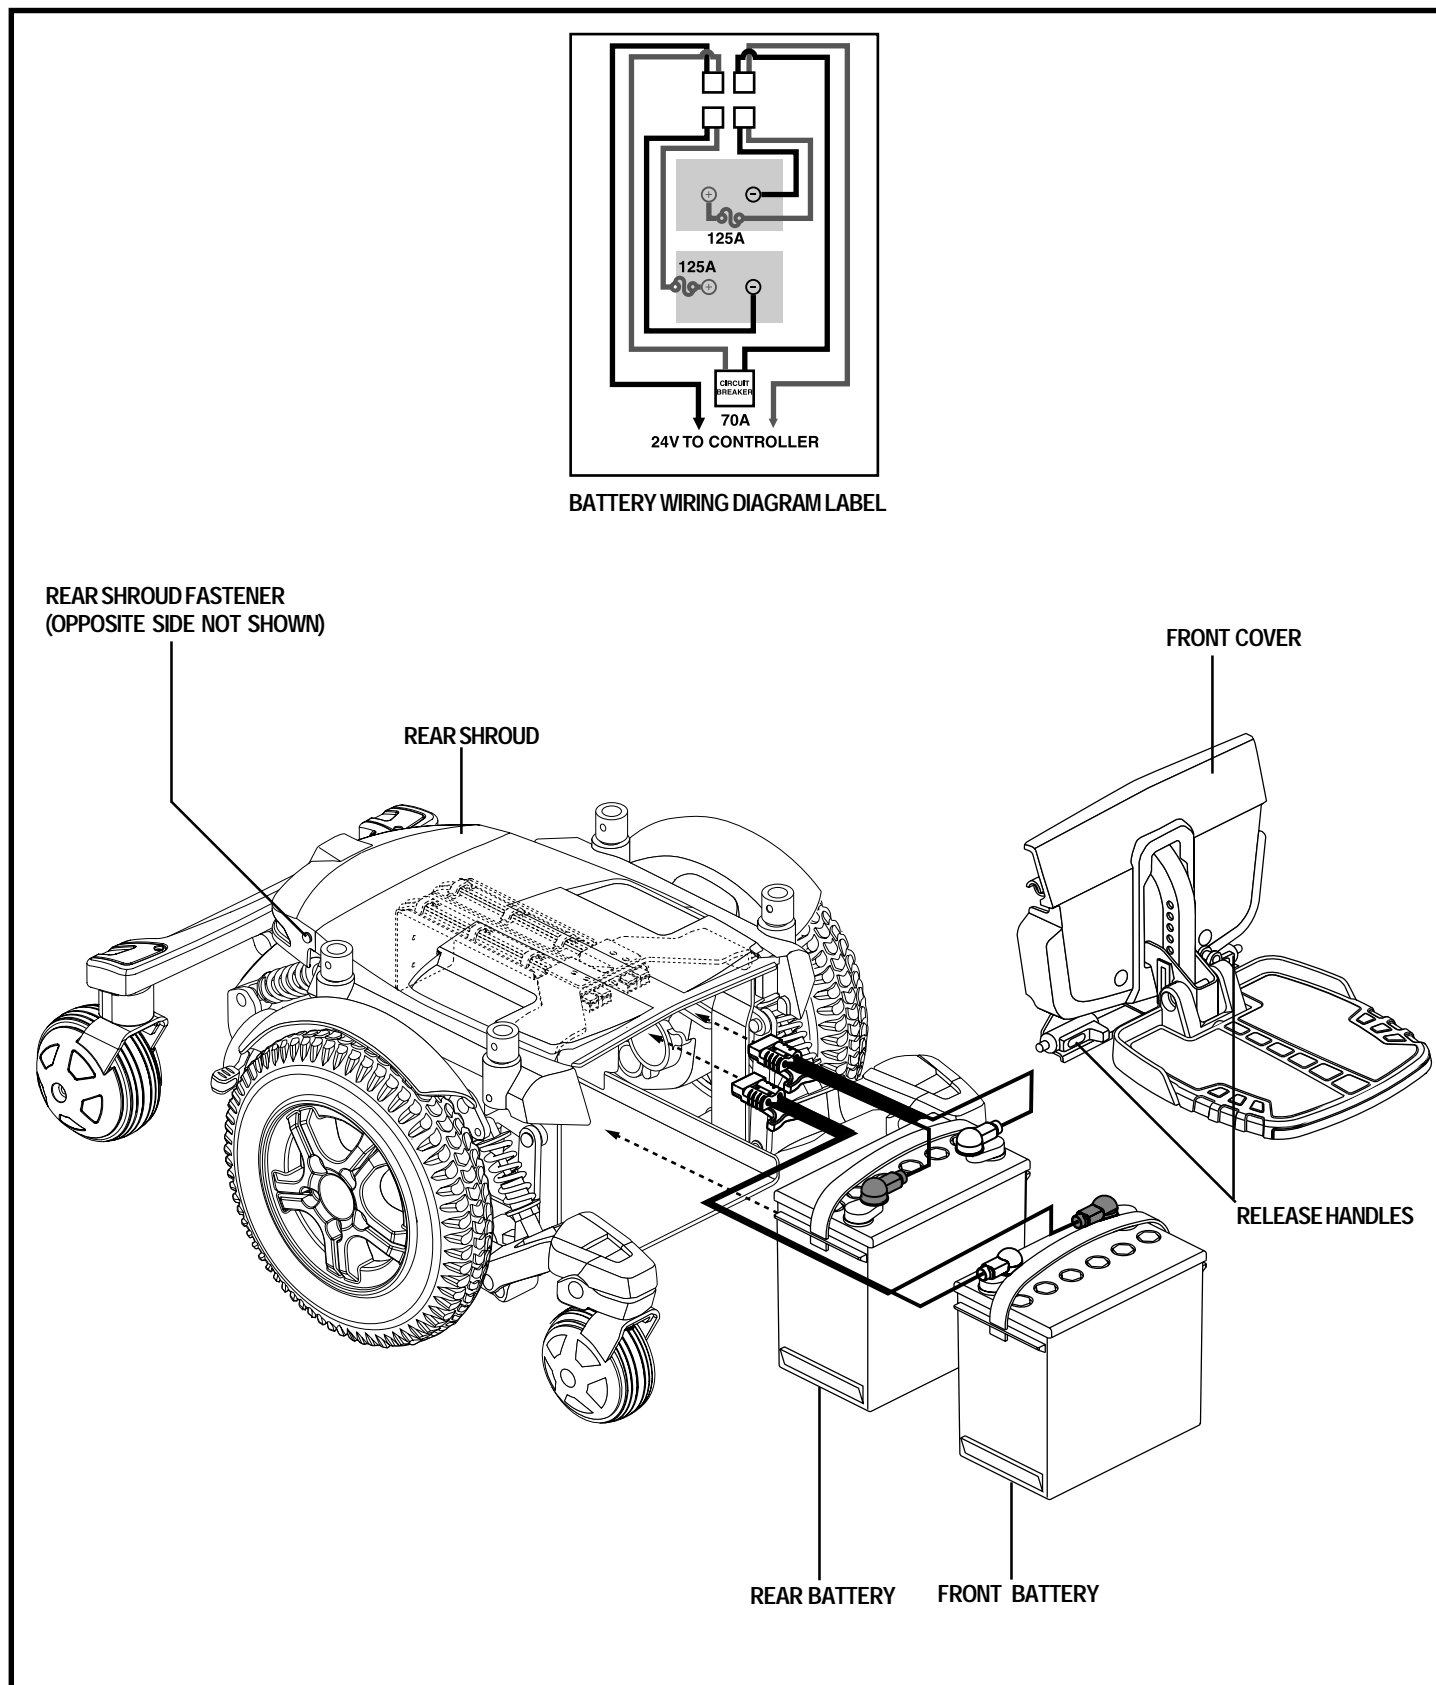

Figure 33. Battery Installation
3. Remove the foot platform by squeezing the release handles (see figure 33) and lifting the foot platform bracket up and out.
7. Connect the battery harness to the front battery according to the battery wiring diagram. See figure 33.
8. Connect the battery harness to the rear battery according to the battery wiring diagram. See figure 33.